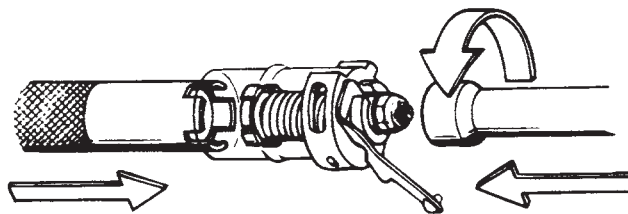

Figure 2
- N** **NOTE:** The venturi baffle (item 11) is not normally removed during servicing. Remove only if damaged and in need of replacement.
- a) Place the poppet wrench (G1100-05) over the sealing end of the poppet (item 9).
- b) Use the $\frac{1}{4}$ " nut driver portion of Lever Height Adjustment Tool (G1016-84) to turn the locknut (item 17) counter clockwise to remove. *Figure 2.*